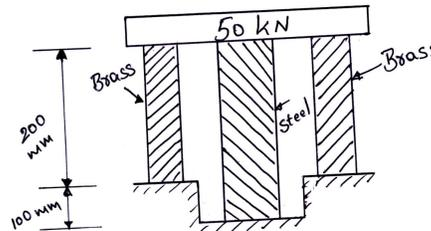

Fig.Q.2(b)
- 2 a. Derive the volumetric strain of a cylinder bar subjected to an axial load (P). (10 Marks)
- b. A steel rod of cross sectional area 1600mm^2 and two brass rods each of cross sectional area of 1000mm^2 together support a load of 50kN as shown in Fig.Q.2(b). Find the stresses in the rod E for steel = $2 \times 10^5 \text{ N/mm}^2$, E for brass = $1 \times 10^5 \text{ N/mm}^2$ (10 Marks)